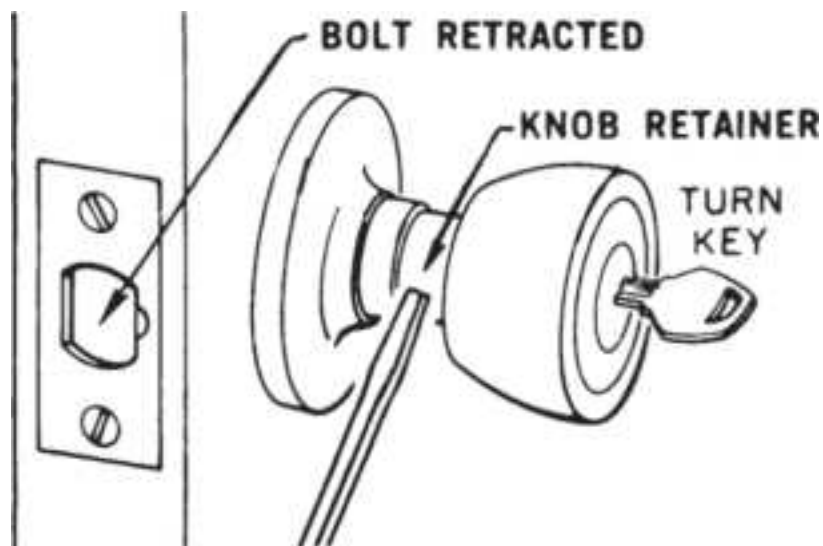

**Figure 13.18** Retract latchbolt.
2. Hold the latchbolt in the retracted position with the key (Fig. 13.18 ). Depress the knob retainer with a screwdriver through the slot in the knob shank.